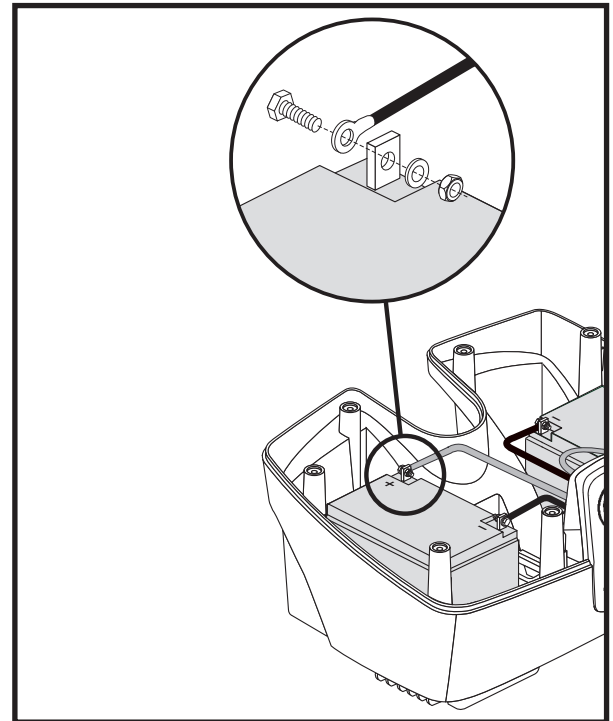

Figure 21. Disconnecting the Battery Cable on a 17-22 Ah Battery Box
*NOTE: Some batteries require the removal of a nut and bolt when disconnecting the battery cable from the battery terminal. See figure 21.*